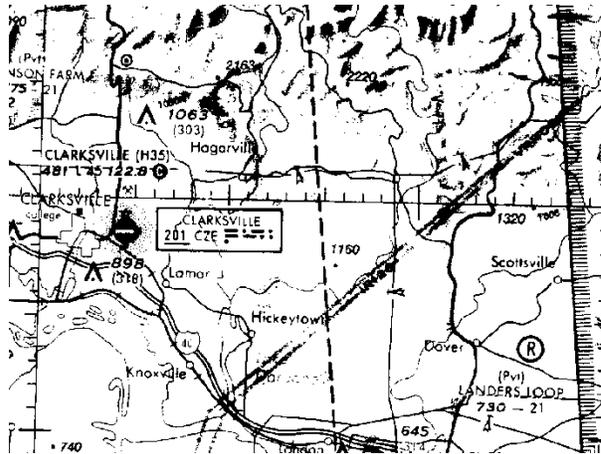

Figure 8-4
Military training routes that may be used by high-speed jet aircraft are identified by one of two designations, depending upon the flight rules under which the military operates when working within that airspace. *Instrument Routes (IR)* and *Visual Routes (VR)* are identified on sectional aeronautical charts by medium-weight solid gray lines with an alphanumeric designation. 4-digit numbers identify MTRs flown at or below 1500 feet AGL; 3-digit (or fewer) numbers identify those flown above 1500 feet AGL. In Figure 8-4 there are two such examples east of the Clarksville Airport symbol -- IR-120, and VR-1102.